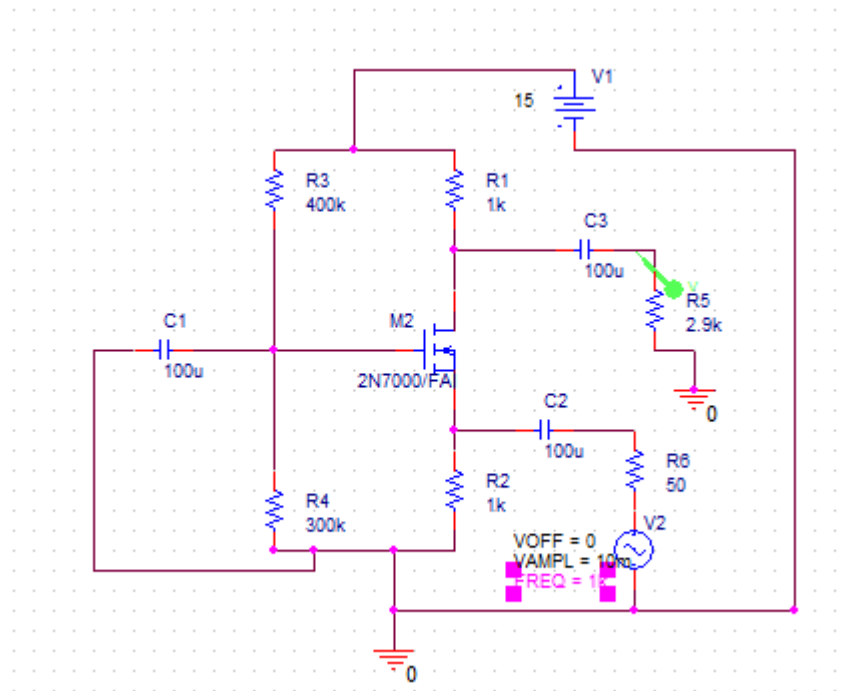

Fig 6: common gate amplifier (practical circuit)
Implement a common-gate amplifier, as shown in Figure 6 . Note the $100\mu\text{F}$ AC coupling capacitor at the input, and the $100\mu\text{F}$ bypass capacitor on the gate; the latter makes the gate an AC ground, appropriate to the common-gate configuration.
- Construct the circuit in circuit Figure 6. Be sure to use the correct polarity for the coupling capacitors, or the circuit may not function properly.